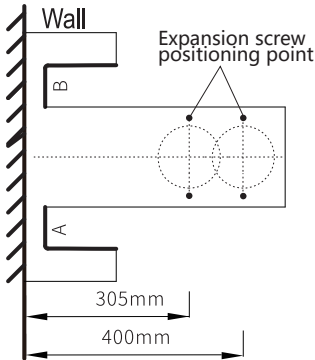

Figure 1
1. Align the mounting cardboard with the center line of the drainage port, fix it with transparent tape around, depict the corresponding contour lines according to the location of the thickened lines at the mounting cardboard A and B, and then drill holes and hit the expansion screws on the location of the corresponding expansion screws on the outside of the drainage port. Finally, remove the mounting board. (Figure 1)